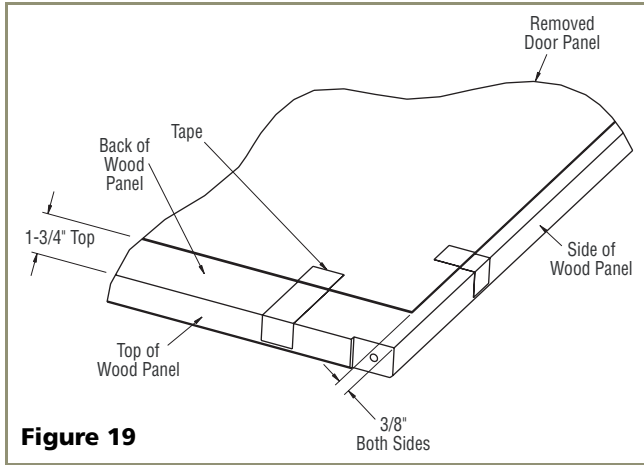
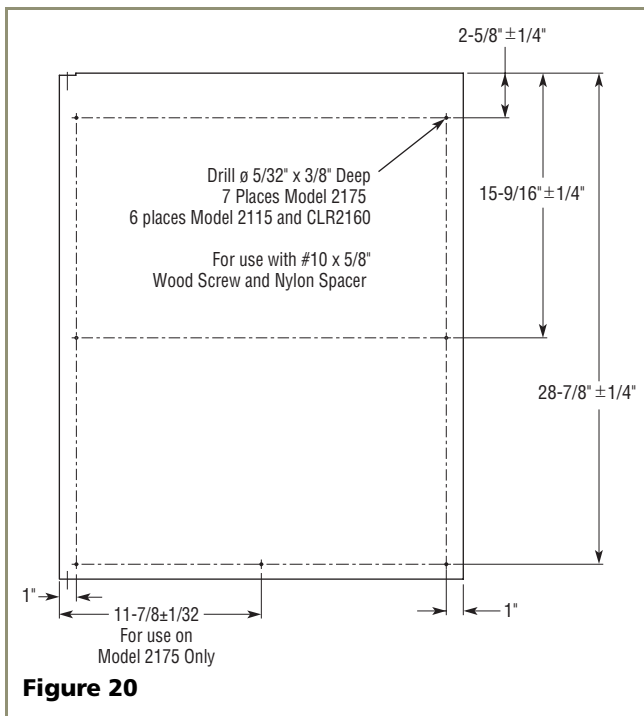

Figure 19
Figure 20
1. Place and tape the existing door panel on the back of the overlay panel (see **Figure 19**) and drill holes through both panels according to **Figure 20**. Remove tape adjoining the panels and enlarge the six holes in the steel (black/white vinyl color) panel using a 0.201" (#7) drill.